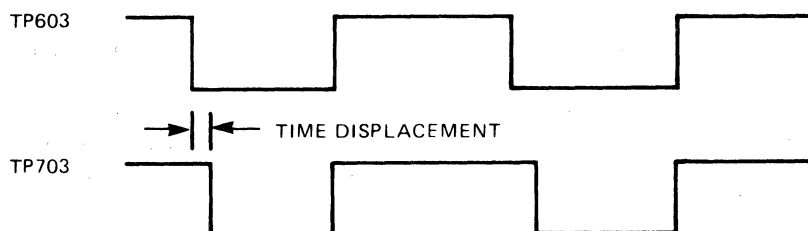

Figure 5-5. Output Waveforms (TP103, TP203, TP603, TP703)
- b. Using the forward/reverse switch, run the tape forward. Observe the time displacement between the two signals displayed on the oscilloscope (figure 5-5). Calculate the amount of displacement (refer to table 5-3).